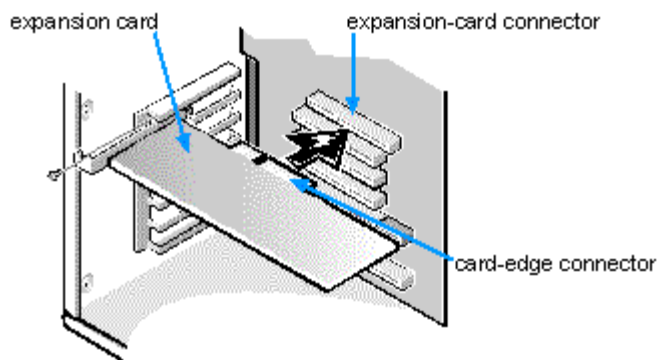

**Figure 9-3. Removing the Filler Bracket**
3. Unscrew and remove the metal filler bracket that covers the card-slot opening for the expansion slot you intend to use (see Figure 9-3).